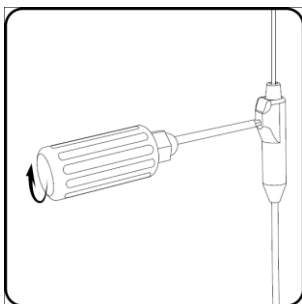

Figure 19: Secure the lead by tightening the setscrew clockwise onto the retention sleeve.
5. Fully insert the torque wrench into the hole of the percutaneous extension connector block. Tighten the setscrew by turning the torque wrench clockwise until it clicks (**Figure 19**).